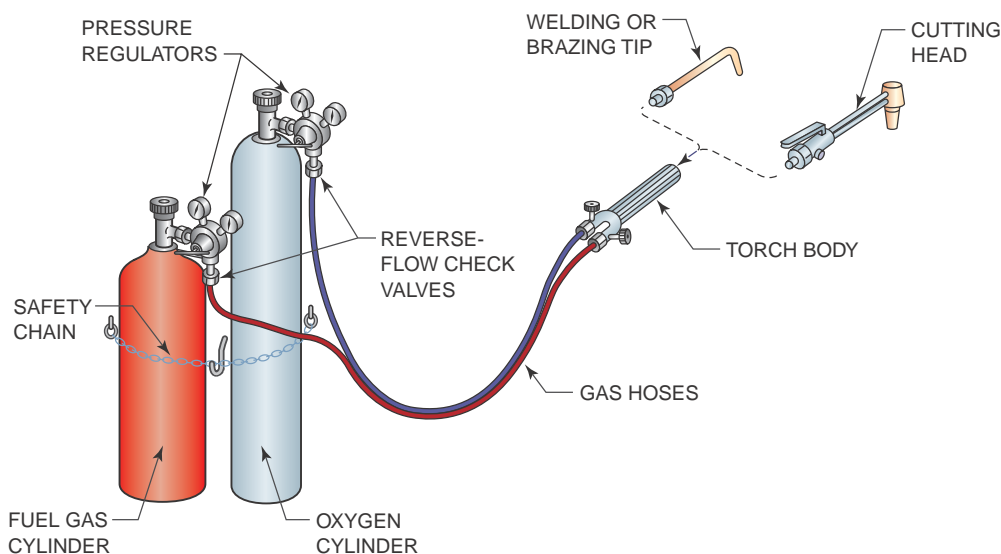

FIGURE 1-17 Oxyfuel gas welding (OFW) and oxyfuel cutting (OFC) equipment.
Oxyacetylene welding (OAW) and **torch or oxyfuel brazing (TB)** can be done with the same equipment, and oxyfuel gas cutting (OFC) uses very similar equipment, Figure 1-17.